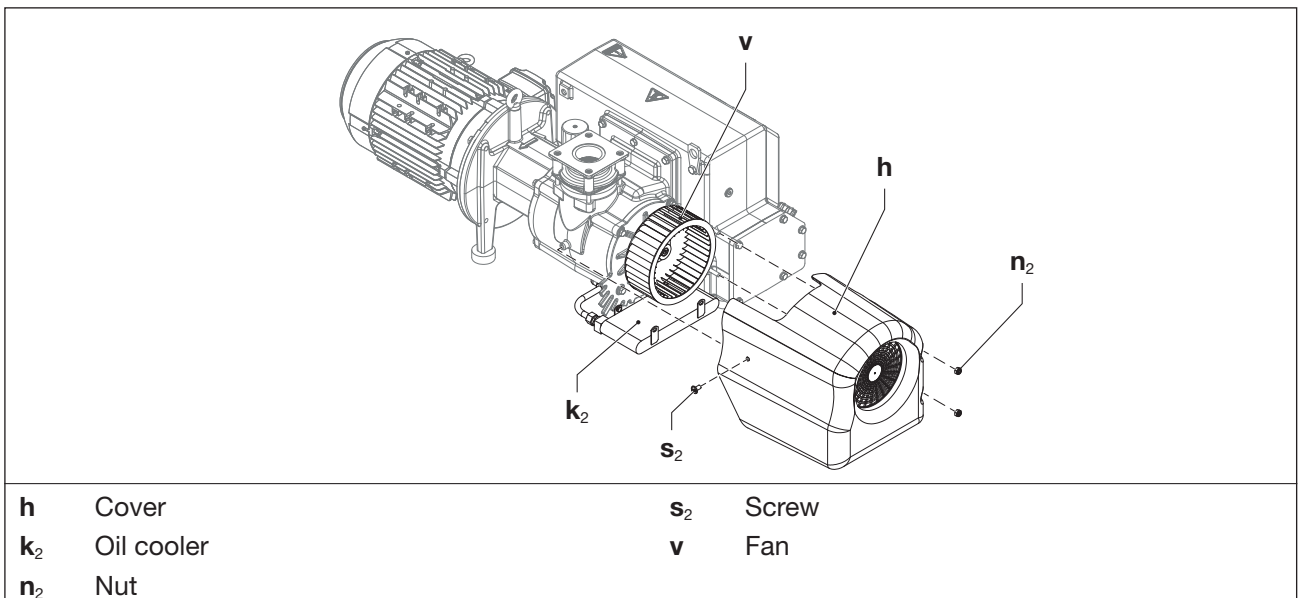

Fig. 9 Oil cooler
- b) Release a screw (Fig. 9/s2) and two nuts (Fig. 9/n2) on the hood.
- c) Remove the hood (Fig. 9/h) from the pump.
- d) Blow-off the oil cooler (Fig. 9/k2) and clean from the outside (wipe with a moist cloth).
- e) Clean / blow off the fan (Fig. 9/v) and check it for damages. Operate the fan only if it is in good order and condition.
- f) Clean / blow-off the ventilation slots on the hood (Fig. 9/h).
- g) Push the hood back onto the pump and fix it using the screw (Fig. 9/s2) and nuts (Fig. 9/n2). Tightening torque: 5 Nm